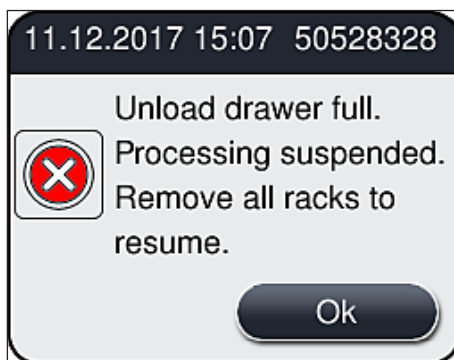

Fig. 77
- The unload drawer must be opened and all racks present must be removed – at the latest – when the message is received indicating that the unload drawer is completely occupied (→ Fig. 77). Failure to observe the message may lead to instrument faults and specimen impairment.